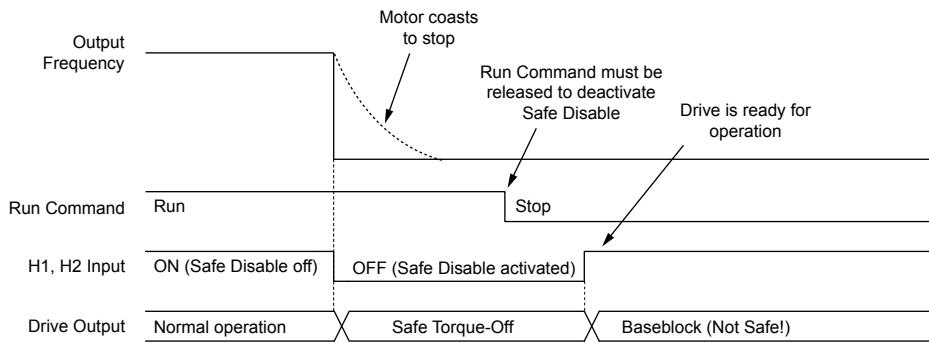

Figure D.13 Safe Disable Operation
*Figure D.13* illustrates the Safe Disable input operation.